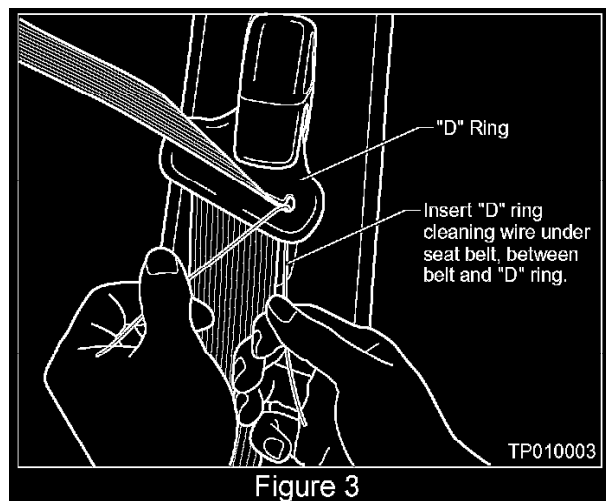

Figure 3
3. Insert the "D" ring cleaning wire under the seat belt; between the belt and the "D" ring (see Figure 3).